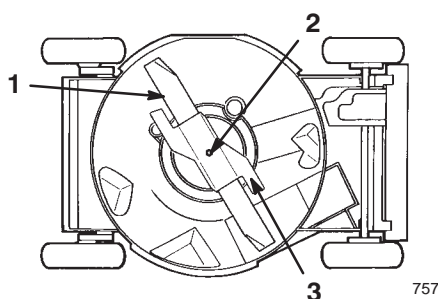

Figure 18
4. Tip the lawn mower onto its **left** side (air cleaner up) (Fig. 18).
2. Remove the blade bolt, the lockwasher, the accelerator, and the blade (Fig. 18).